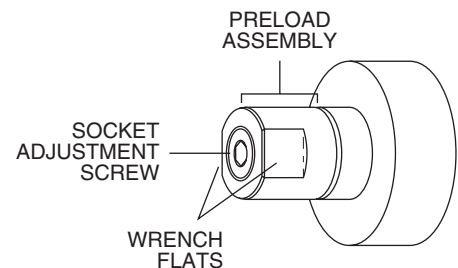

Figure 1
1. Unscrew the preload assembly from the valve body. Wrench flats are provided for this purpose. **(Figure 1)**